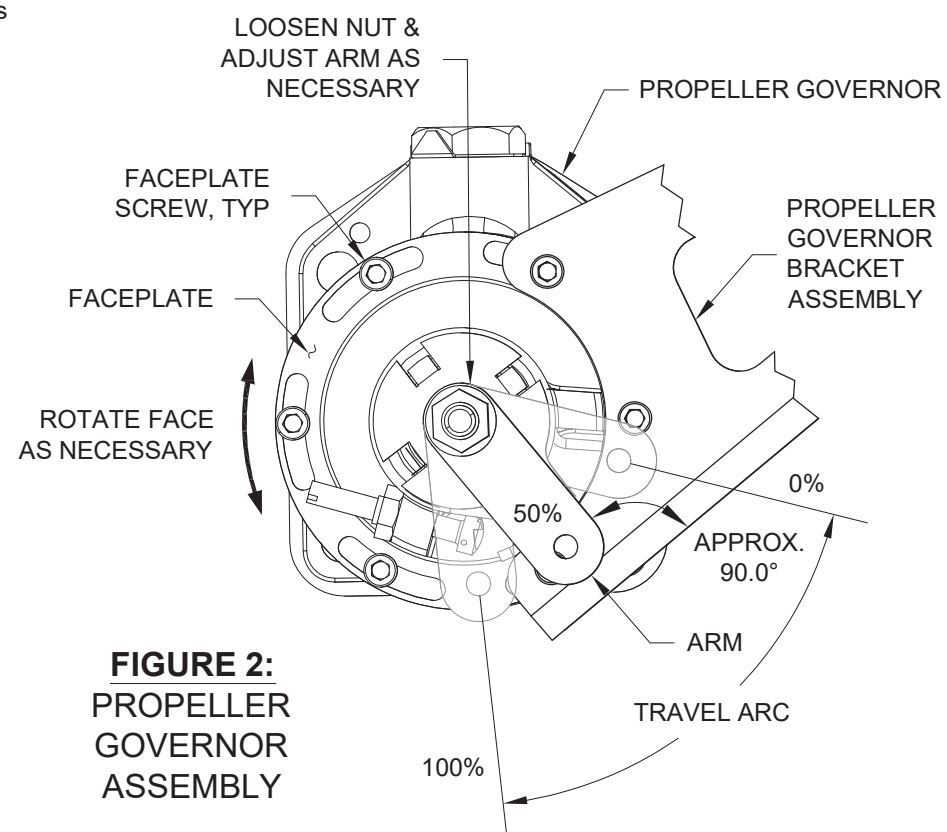

FIGURE 2:
Step 3: Using the hardware and instructions supplied with the propeller governor, install the Propeller Governor, propeller governor gasket, and Propeller Governor Bracket Assembly onto the engine as shown in Figure 2 and Figure 3.
Step 4: Observe the arm as it swings through its travel arc. Loosen the faceplate screws. Adjust the clocking of the faceplate so at 50% of travel the arm is approximately 90° to the bottom flange of the Propeller Governor Bracket Assembly. See Figure 2.